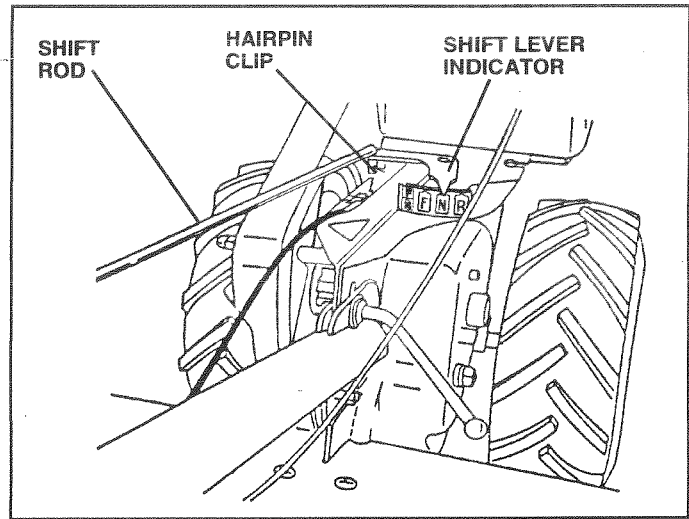

FIG. 7
CONNECT SHIFT ROD (See Fig. 7)
- Make sure shift lever indicator is in "N" position (See Fig. 7).